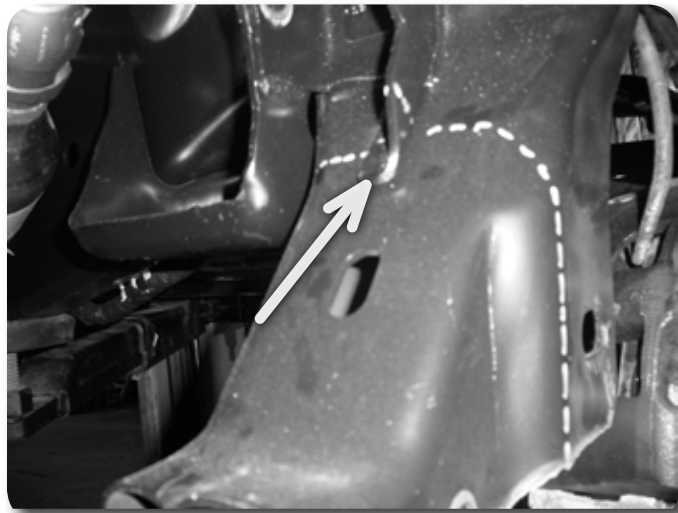

Figure 15
26. On the 'inside' face, measure up 3/4" from the bottom of the original diff mount bracket. Draw a horizontal line to the front and rear face. Figures 15